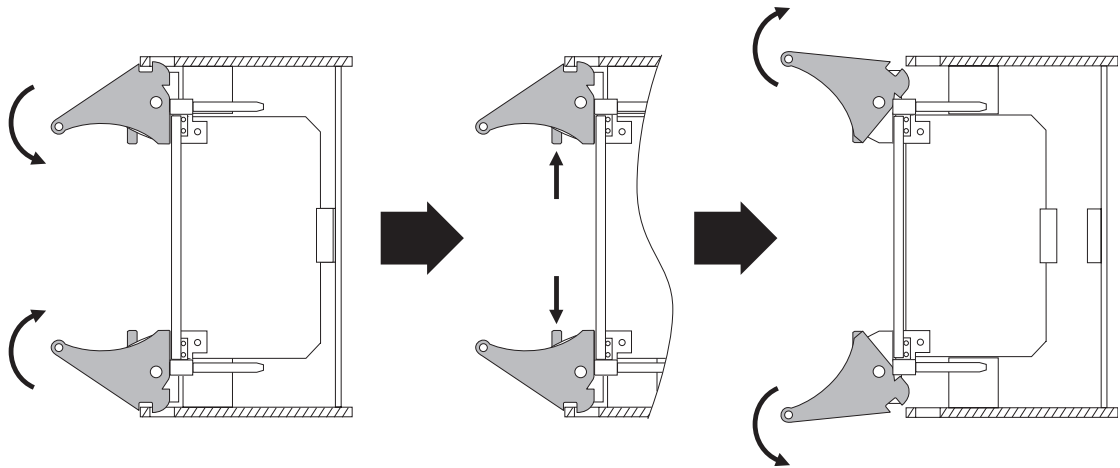

FIGURE 3-3 Injector/Ejector Operation (Board-Level Components)
6. **Prepare the card by opening the injector/ejector mechanisms (FIGURE 3-3).**
5. Prepare the board by opening the injector/ejector mechanisms (FIGURE 3-3).